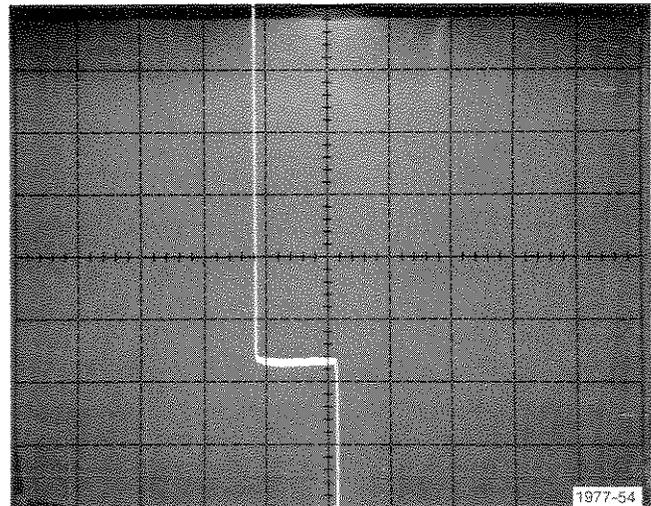

Fig. F-2. Typical display of input offset voltage.
c. Check that the right edge of the horizontal trace is less than 4 vertical divisions (± 20 mV) from the display zero reference (see Fig. F-2).